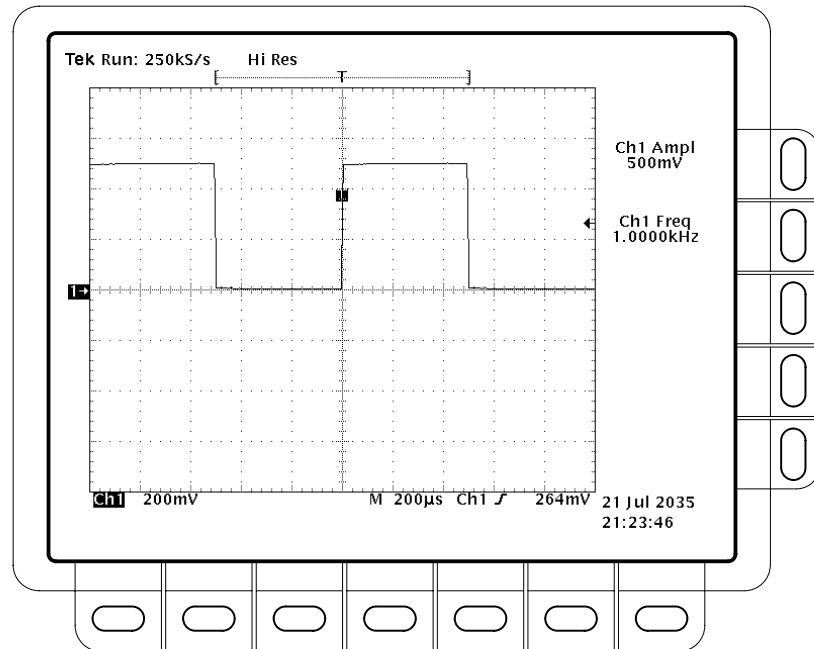

Figure 4–22: Measurement of Probe Compensator Limits
- Press **CLEAR MENU** to remove the menus from the display. See Figure 4–22.